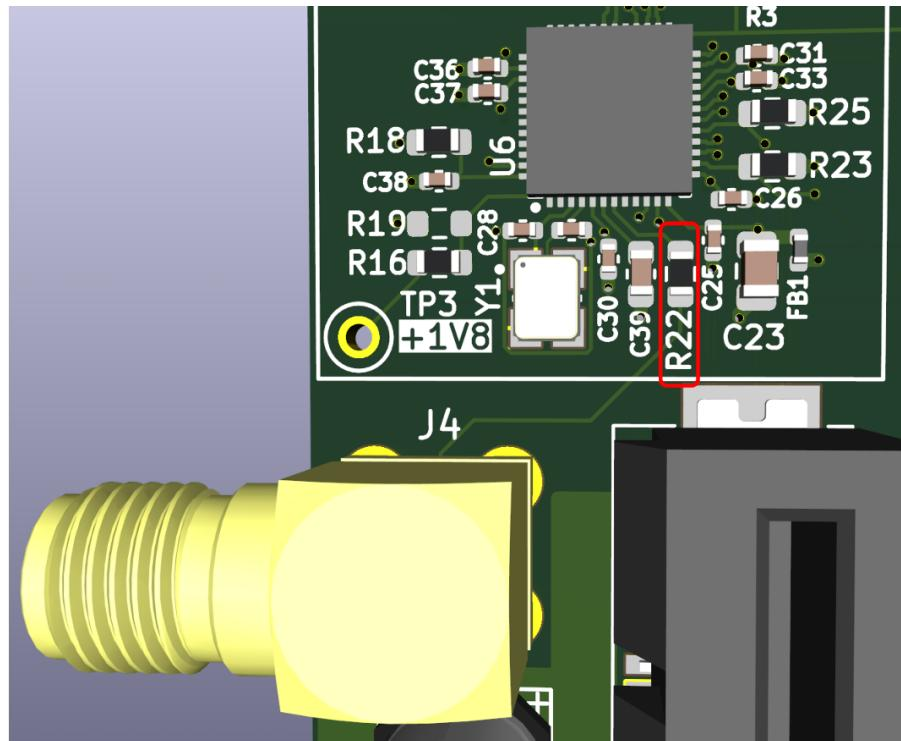

Figure 3: Location of Resistor R22 (25MHz Check)
2. **Step 3.2:** Locate \*\*Resistor R22\*\* (Series resistor for the SMA connector J4). See Figure 3.